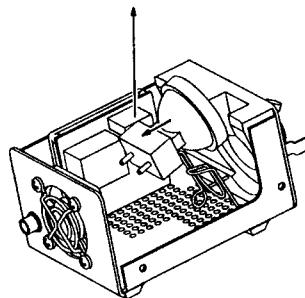

Figure 4
3. Remove the lamp by pulling it back against the retaining spring and then up (**Figure 4**). Pull to disconnect lamp from harness connector and discard lamp.